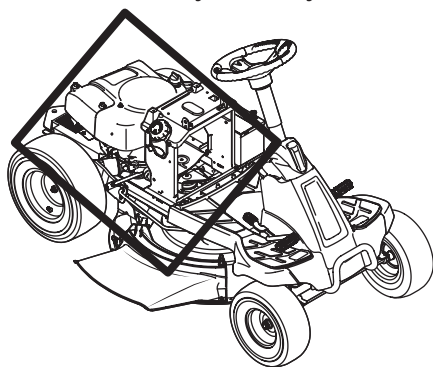

Figure 22
- Clean under the hood. Exhaust manifold, around fuses, all wiring and harnesses, muffler pipe, muffler shield, engine intake screens and cooling fins, etc. See Figure 22.